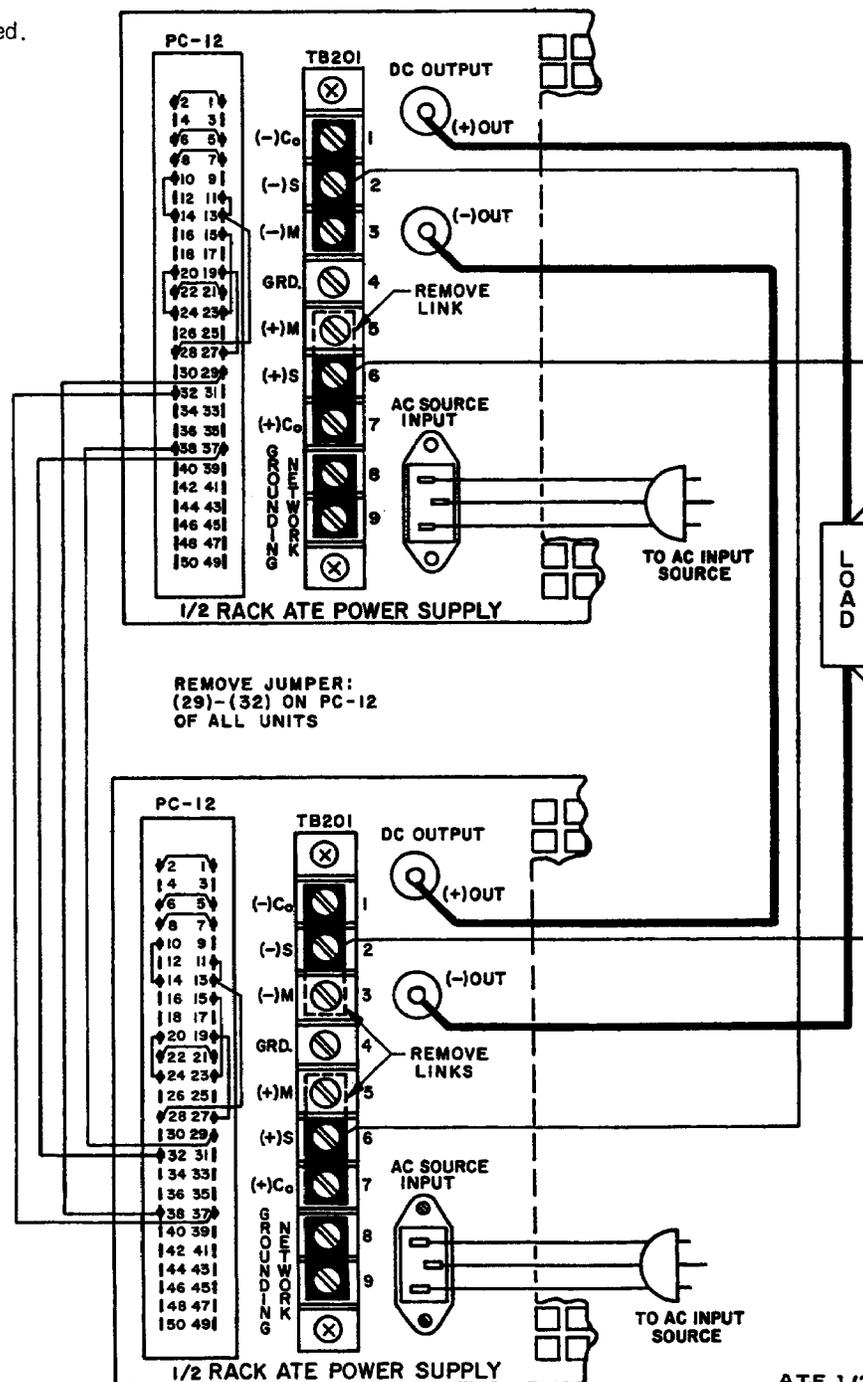

FIG. 3-20 AUTOMATIC
- 3) Use error sensing, as shown in the diagram (See FIG. 3-20), to compensate for load wire drops.
- 3) Make all load connections as shown in the diagram (refer to FIG. 3-20).